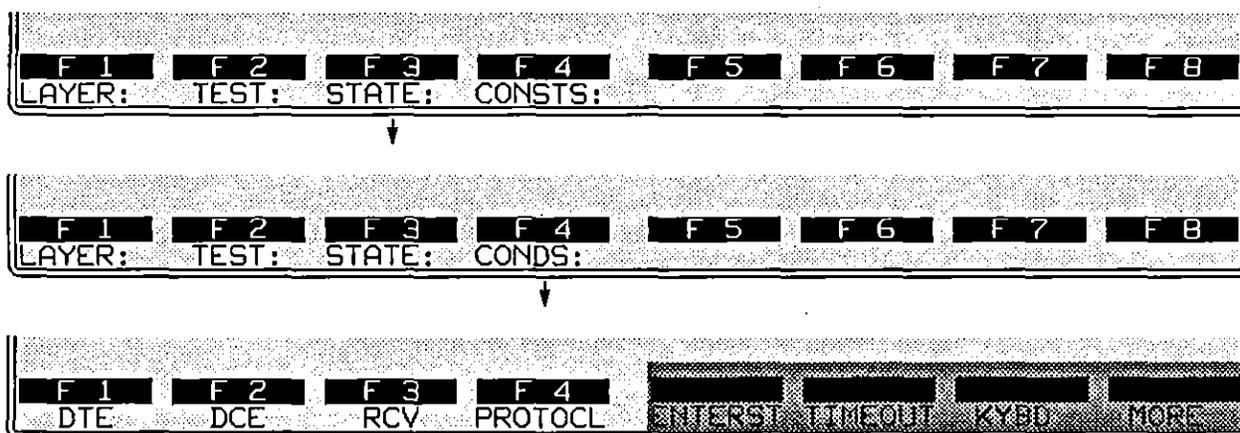

Figure 42-5 The softkeys for *DTE* and *DCE* are used to monitor LAPD protocol events at Layer 2.
- A group of conditions and actions at Layer 2 on the Protocol Spreadsheet that facilitate LAPD programming. Figure 42-5 shows the softkey path to the first rack of condition softkeys when the LAPD package is loaded in at Layer 2.
When the LAPD personality package is loaded in (via the Layer Setup screen), a set of conditions checks DTE and DCE leads. This set of conditions is accessed by the DTE and DCE selections on the first rack of condition softkeys at Layer 2. See Figure 42-5.